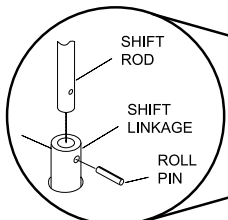

Figure 11-3
2. With the console and handle assembly positioned as shown in Figure 11-3, insert the shift linkage rod (Item 31) into the shift linkage connector (Item 54).